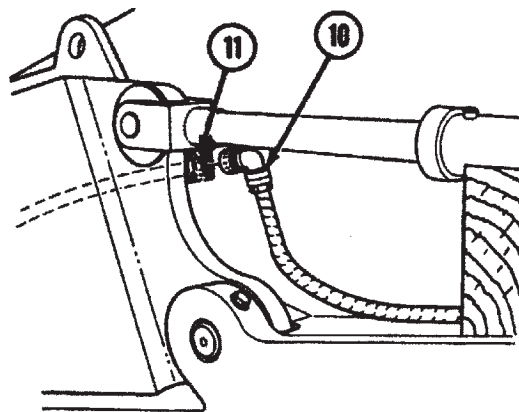

Figure 18. Intermediate Headlight Wiring Harness.
Step 4 applies to Figure 18.
4. Disconnect headlight intermediate wiring harness cannon plug (10) from apron wiring harness receptacle (11) on left side of vehicle.